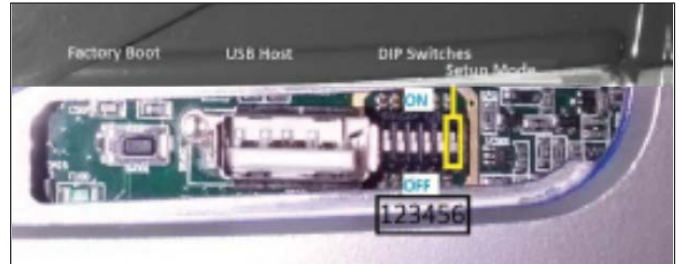

Figure 86. USB port
4. Plug the USB drive into the USB Host port (see **Figure 86**). Within 10 seconds, the module should recognize the USB drive and the OK LED should flash red-green.